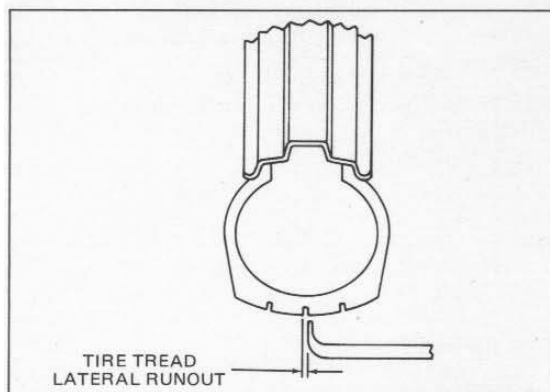

Figure 2-20. Checking Tire Radial Runout
1. Check runout by turning wheel on axle, measuring tread runout (see figure 2-20).